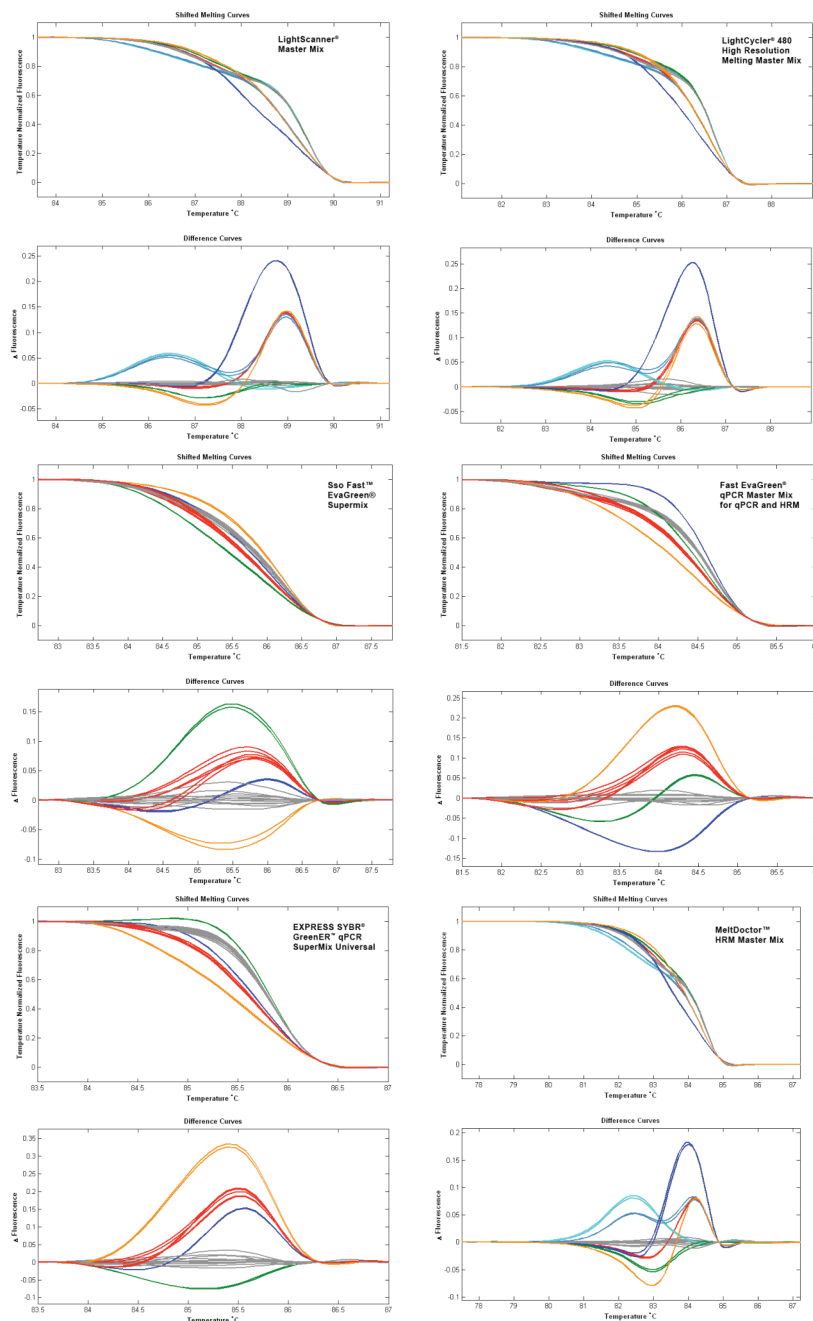
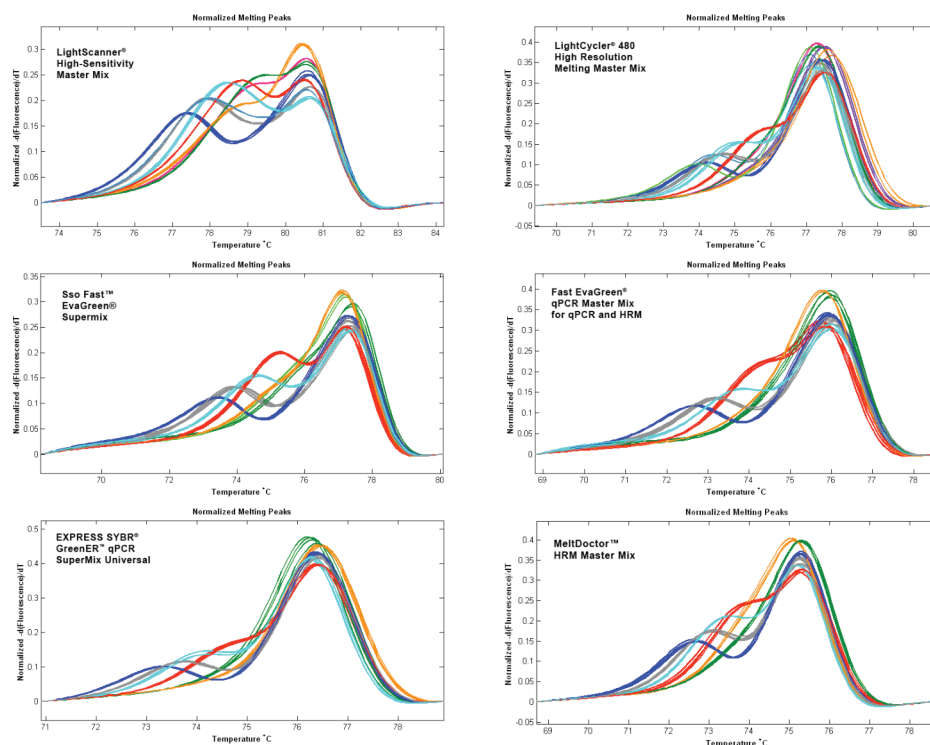

Figure 1. Scanning sensitivity variation across the six master mixes.
Figure 2. Human tyrosine hydroxylase locus small amplicon genotyping results.
- LightScanner Master Mix (Figures 1, 3) and the LightScanner High-Sensitivity Master Mix (figure 2) (with calibrators) with LCGreen® Plus dye (Idaho Technology, Inc.)
Whole blood was drawn from 30 human donors, and DNA was isolated using standard extraction kits and procedures. Samples were diluted in TE 1X buffer, pH 8.0, to a final concentration of 15 ng/μL. Genotypes for all comparisons were identified using Hi-Res Melting technology and sequence-verified. All master mixes were used in accordance with manufacturer recommendations. We optimized PCR protocols for each master mix to generate the cleanest amplicons for analysis on the LightScanner system. Standard agarose gels were run to verify annealing temperature optimization. PCR duplicates (Figure 1) or triplicates (Figures 2 and 3) were run for each DNA sample. All PCRs for master mix comparisons were performed on calibrated 96-well plate thermal block cyclers, followed by Hi-Res Melting on the LightScanner. Data analysis was performed using standard software supplied with the LightScanner.
High Sensitivity master mix (with calibrators) was used in place of the LightScanner master mix in the small amplicon genotyping study. It should be noted that this is the only commercial master mix that contains a finely tuned internal calibration system designed to work with High-Res Melting calibration software. Because of this, peak alignment is highest in Figure 2 with this master mix. Using this master mix ensured the highest resolution available despite the inevitable yet subtle sample-to-sample temperature, volume, and buffer variation.
Gene scanning results for the LPC amplicon (302 bp, 52% GC) are shown in Figure 1. LightScanner, LightCycler 480, and MeltDoctor mix correctly identified all seven genotype groups. In contrast, SsoFast EvaGreen, Fast EvaGreen, and EXPRESS SYBR GreenER master mixes were only able to differentiate five groups. This was due to the homozygous variant samples being incorrectly grouped with the wild-type profiles and two different heterozygous variants being grouped together. This decreased sensitivity is probably caused from reduced or absent heteroduplex content at approximately 87.5°C. This second melting domain is clearly observed with the LightScanner Master Mix and is partially observed with the LightCycler 480 mix.
The human tyrosine hydroxylase locus was assayed using a set of primers immediately flanking a common short tandem repeat used in forensics (HUMTHO1) yielding a variable length fragment ranging from 67–82 bp. Results are shown in Figure 2 above. Sample genotypes were established by fragment analysis performed independently by the Los Angeles Police Department's forensics laboratory.
The High Sensitivity Master Mix correctly identified all eight genotype combinations. The MeltDoctor, SsoFast EvaGreen, Fast EvaGreen, and EXPRESS SYBR GreenER master mixes identified six of eight groups correctly. Several errors were found with the LightCycler 480 mix. In two instances, two genotypes were combined into a single group and also resulted in three unique genotypes being clustered into only two groups. The LCGreen dye in the High Sensitivity Master Mix creates maximal heteroduplex content as can be seen in Figure 2 (note green and orange group profile differences). All other dyes have less heteroduplex content, partly explaining the loss of sensitivity in this small amplicon genotyping application.